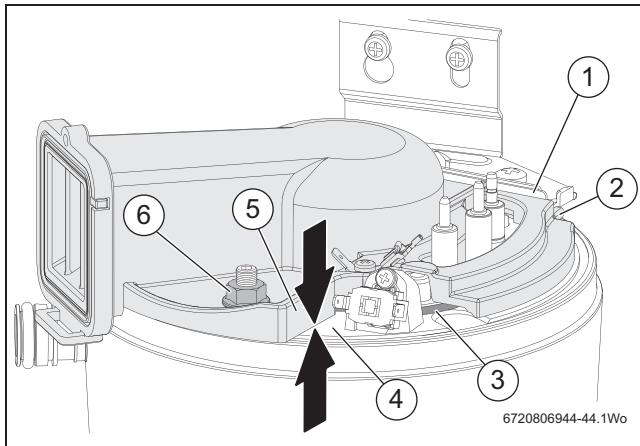

Fig. 81 Air/gas manifold clamping plate fitting
Refer to figure 81.
- ▶ Tighten the nut [6] until the underside face of the air/gas manifold clamping plate mates with the top of the heat exchanger [4] as indicated by the two arrows in figure 81.